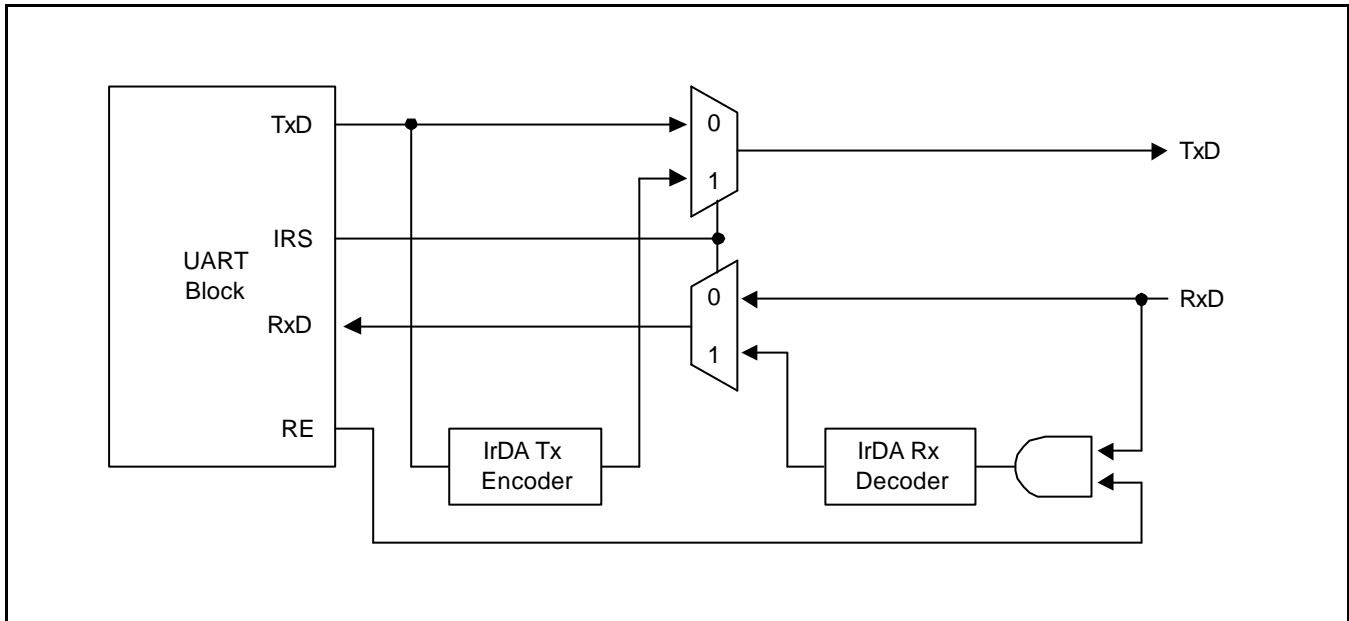

Figure 11-3. IrDA Function Block Diagram
The S3C2400 UART block supports infra-red (IR) transmission and reception, which can be selected by setting the infra-red-mode bit in the UART line control register (ULCONn). The implementation of the mode is shown in Figure 11-3.